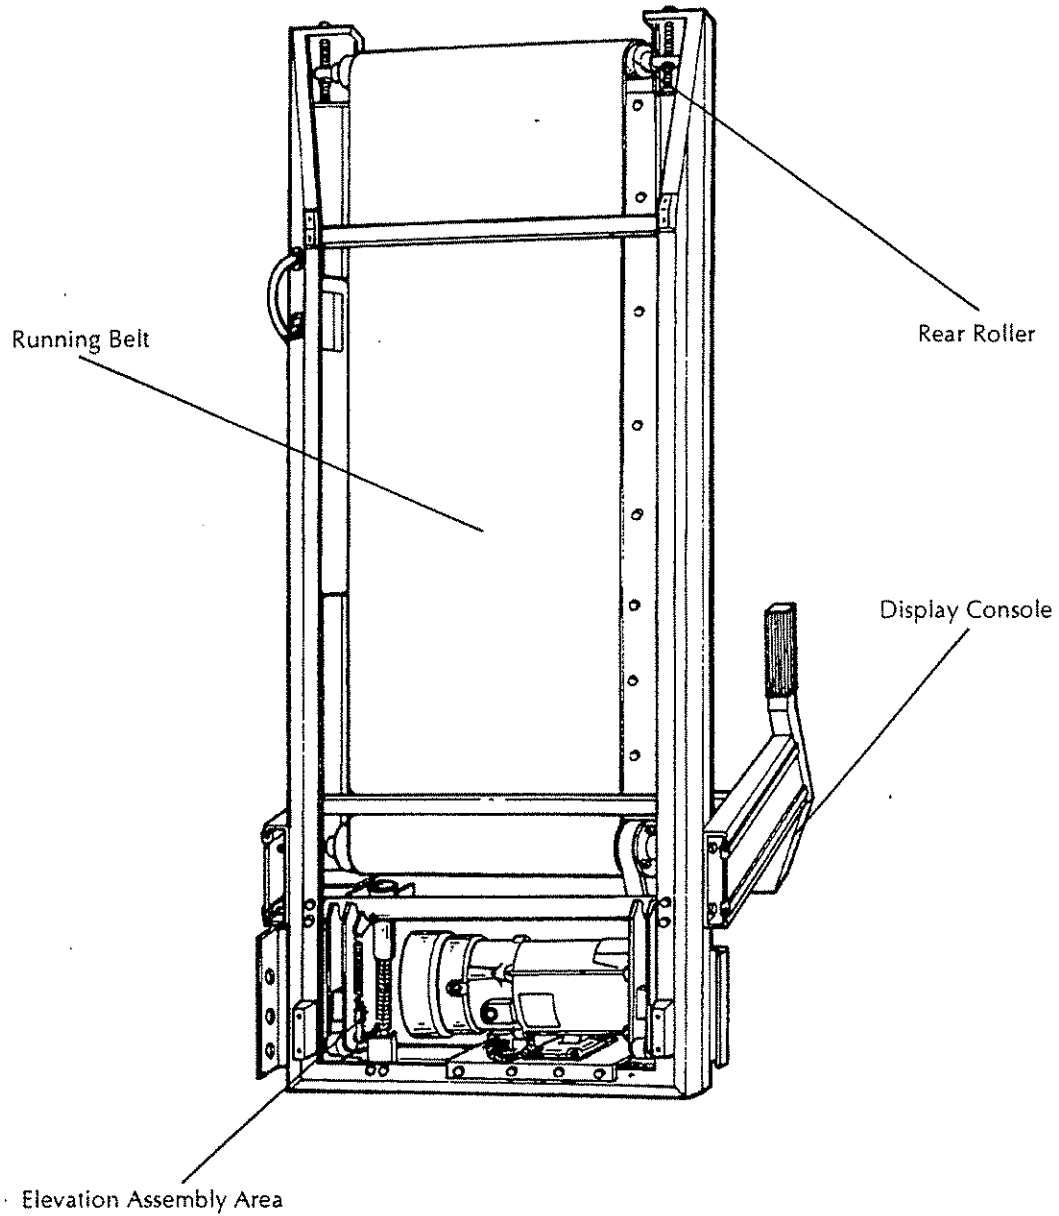

Figure 3-4: Treadmill Shown in the Upend Position
6. Lift the rear of the treadmill and stand it on its front end. The display console should be resting on the floor in this position. See Figure 3-4.
7. Vacuum the interior and surrounding areas of the rear roller and elevation assemblies. See Figure 3-4.
10. Lift the rear of the treadmill and stand it on its front end. The display console should be resting on the floor in this position. See Figure 3-4.
4. Lift the rear of the treadmill and stand it on its front end. The display console should be resting on the floor in this position. See Figure 3-4.
- c. Lift the rear of the treadmill and stand it on its front end. The display console should be resting on the floor in this position. See Figure 3-4.
2. Lift the rear of the treadmill and stand it on its front end. The display console should be resting on the floor in this position. See Figure 3-4.